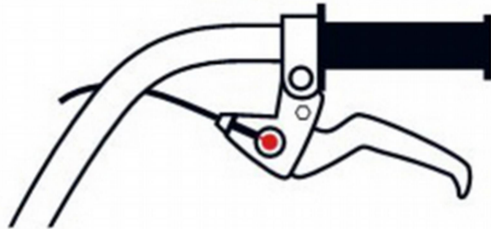
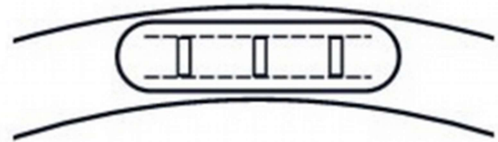
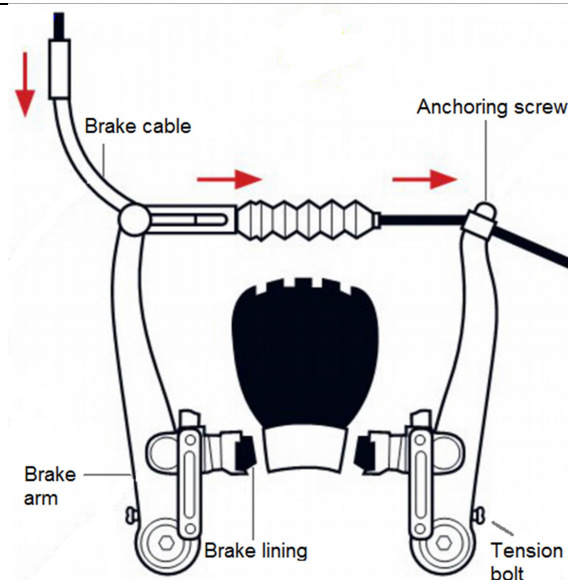
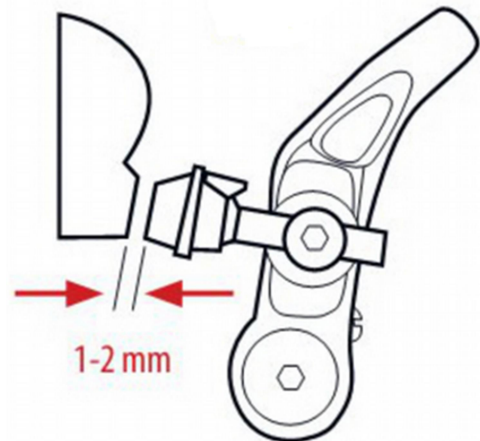

Fig. 6
Fig. 7
Fig. 8
Fig. 9
24. Generally, the right brake lever brakes the rear wheel and the left brake lever brakes the front wheel. Insert the oval ending of the brake cable into the round hole situated on the brake lever (grips may vary based on the model) and insert the brake cable into the slot on the underside of the brake lever (Fig. 6). Press both arms of the brake onto the rim and use a suitable key to adjust the brake lining so that it chafes against the rim with its whole surface during braking (Fig. 7). If necessary, tighten or loosen the brake cable with the anchoring bolt (Fig. 8) or with the adjusting
screw on the brake lever so that there is a distance of approximately 1 – 2 mm between the rim and the brake lining (Fig. 9). If the wheel does not turn freely and “slackens up” on one side, you can adjust the tension bolt on the arm of the brake (Fig. 8). Loosen the tension bolt on the brake arm more distant from the rim so that the wheel may turn freely. Check that the brakes work properly before every ride. If the scooter also has a front brake, mount it and adjust it the same way. If the brake levers have adjusting screws (situated on the side of the lever), you can tighten the screw to shorten the distance between the lever and the grip (depending on the size of the hand).